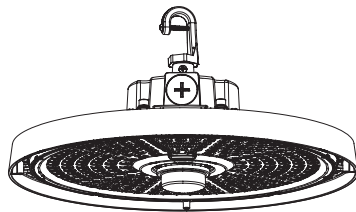

Figure 1
1. Screw the hook into the fixture, tighten and fix it. (Figure 1)